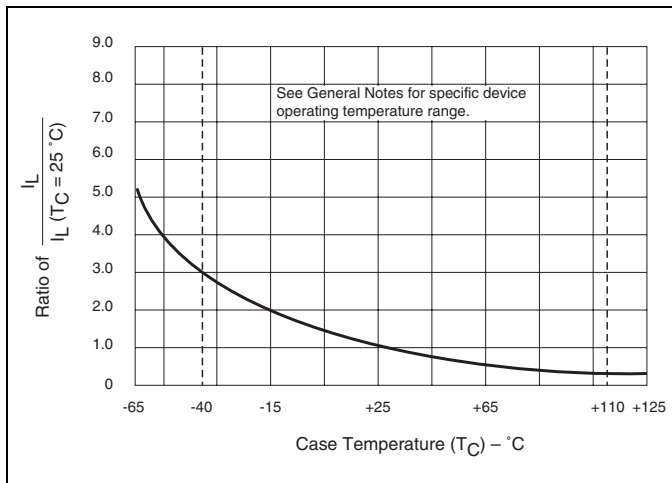

Figure E5.18 Normalized DC Latching Current versus Case Temperature
- (13) IGT = 500 μA maximum at TC = -40 °C for T106 devices
- (14) IH = 10 mA maximum at TC = -65 °C for 2N5064 Series and 2N6565 Series devices
- (15) IH = 6 mA maximum at TC = -40 °C for T106 devices
- (16) Pulse Width ≤ 10 μs
- (17) IGT = 350 μA maximum at TC = -65 °C for 2N5064 Series and 2N6565 Series devices
- (18) Latching current can be higher than 20 mA for higher IGT types. Also latching current can be much higher at -40 °C. See Figure E5.18.
- (19) TC or TL = TJ for test conditions in off state
- (20) IDRM and IRDM — 50 μA for 2N5064 and 100 μA for 2N6565 at 125 °C
- (21) TO-92 devices specified at -65 °C instead of -40 °C
- (22) TC = 110 °C